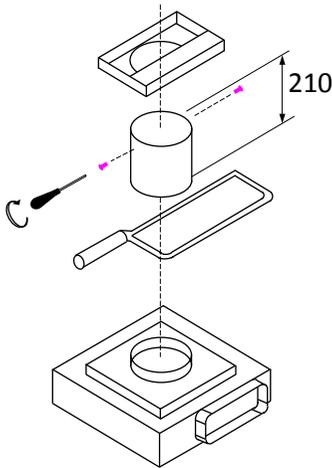

Fig 13
3. Cut the supplied pipe to the required length and secure it to the plenum with 2 screws and fit it into the neck of the motor (Fig 13).